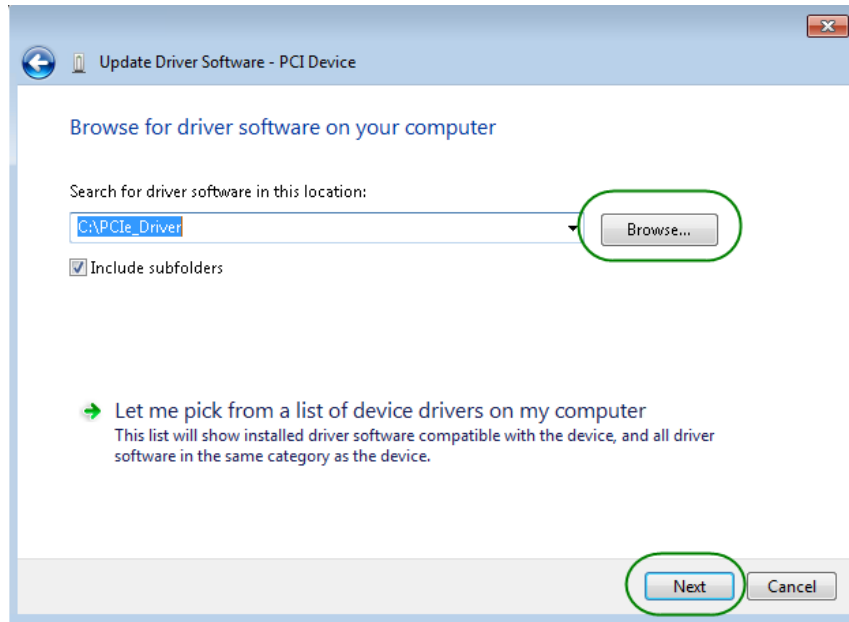

Figure 5-5 Browse for the driver software on your computer
7. In the **Browse for driver software on your computer** dialog, click the **Browse** button to specify the folder where altera_pcie_din_driver.inf is located, as shown in **Figure 5-5**. Click the **Next** button.